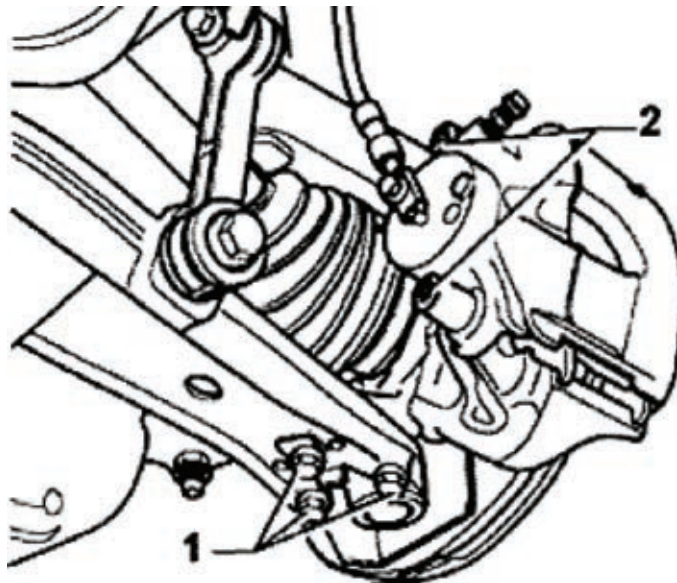

fig. 2
1. Unbolt the two mounting bolts for the brake caliper and secure or hang the caliper to the body of the vehicle. Fig 2
3. Remove the three lower bolts from the lower ball joint and control arm. Detach the ball joint and hub assembly from the control arm. Fig 2